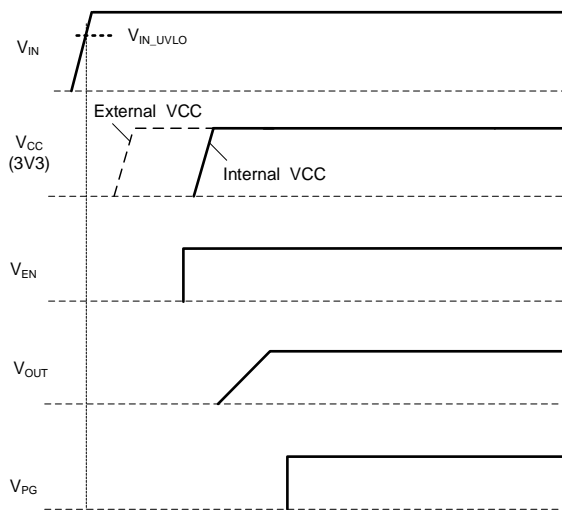

Figure 7: Start-Up Sequence
The MP8638 employs a soft-start (SS) mechanism to ensure a smooth output during start-up. Once EN is pulled high, the internal V_{REF} ramps up gradually, and V_{OUT} ramps up smoothly as well. SS is complete once V_{REF} reaches the target value, and the parts begins steady-state operation (see Figure 7).